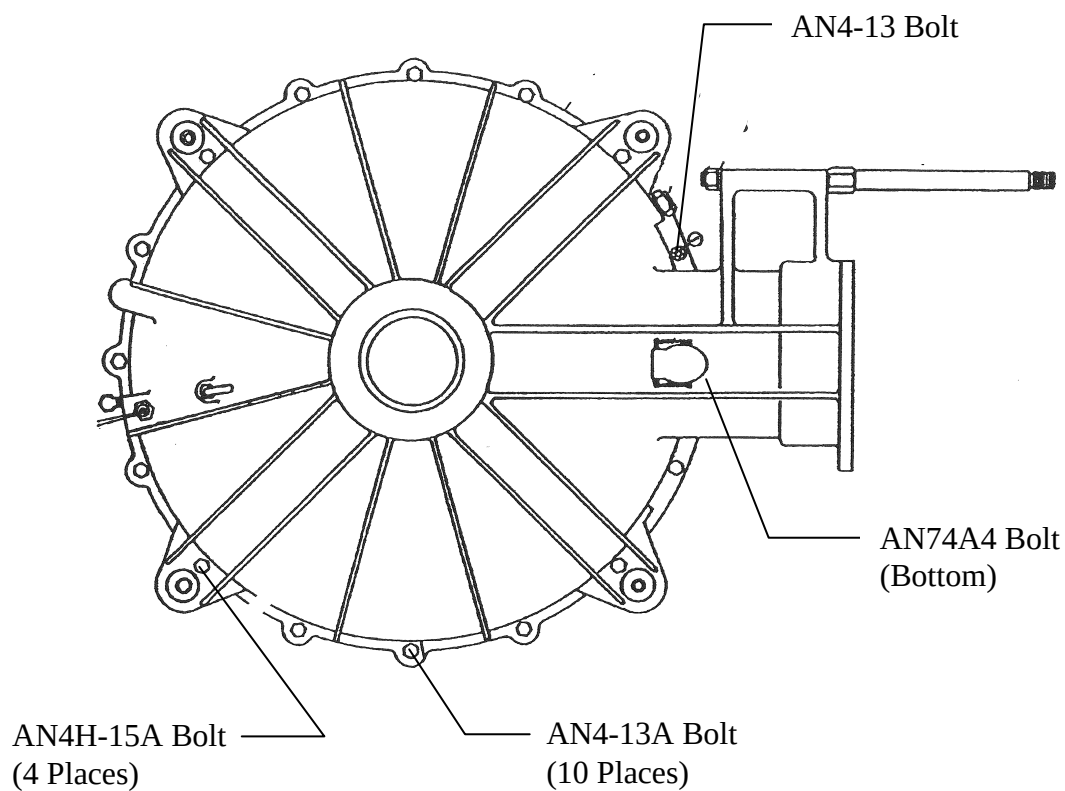

Figure 1. Main Rotor Gearbox Attachment Bolts
- C. Locate the main rotor gearbox bottom cover attachment bolts (reference Figure 1).